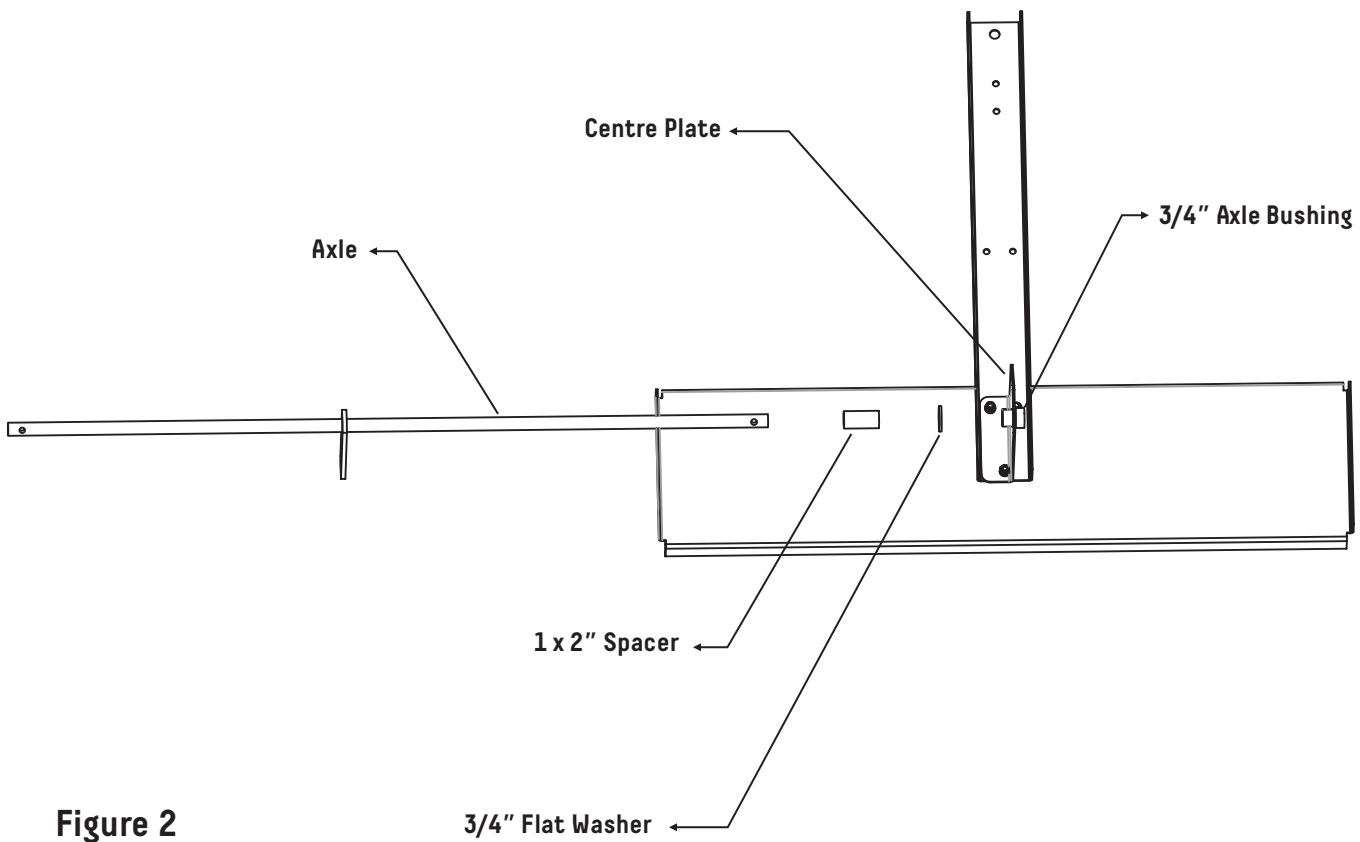

Figure 2
2. Place the 1 x 2" Spacer onto the Long End of the Axle, followed by a 3/4" Flat Washer. Insert the Long End of the Axle into the 3/4" Axle Bushing of the Centre Plate. See Figure 2.